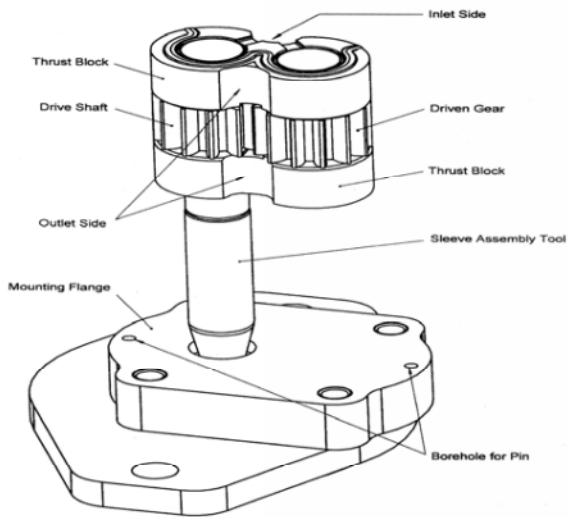

Fig. 2
1. Fit the thrust block (7) 180° turned on the mounting flange, the seals (5, 6) facing to the mounting flange (15)
2. Refit the drive shaft and the driven gear (11,10) and. Fit the other thrust block (7) 180° turned on the shafts. Fit the sleeve assembly tool or the assembly sleeve (20,21) to the drive shaft (11).
3. Fit the thrust blocks (7) and the gears (10,11) with the assembly sleeve (20) to the mounting flange (15). Make sure that the seals are uppermost. See Fig. 2. Remove the assembly tool